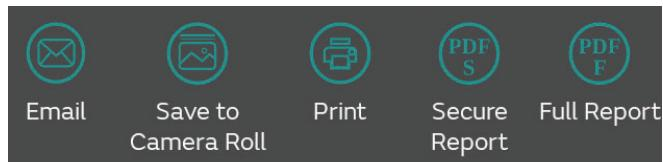

Figure 56. Select PDF Report format
3. Tap the **Share Media** button. A menu with the available media types will display (Figure 56).